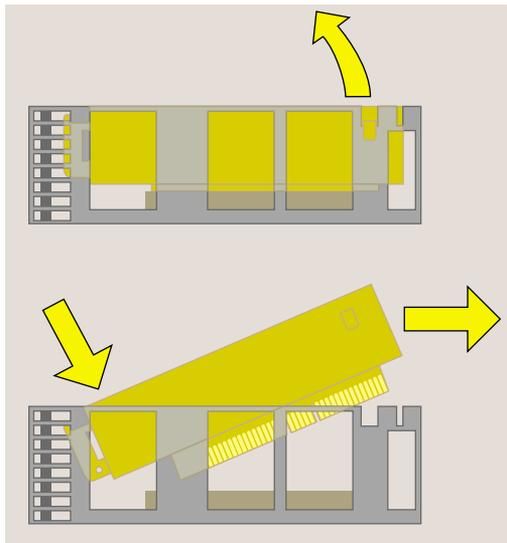

Figure 2-31 Removing the PCI Tray
2. Push down slightly on the rear of the PCI tray and remove it from the system module (Figure 2-31). *Do not remove the PCI board from the tray, if one is installed.*